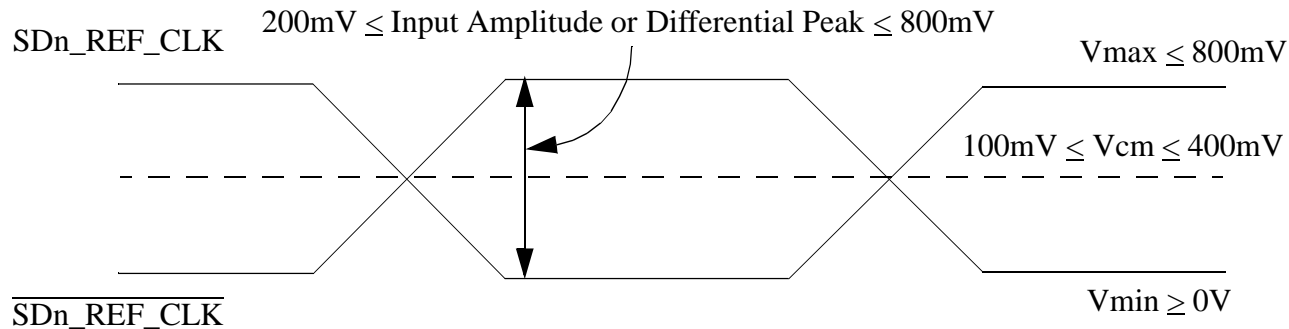

Figure 46. Differential Reference Clock Input DC Requirements (External DC-Coupled)
- For **external DC-coupled** connection, as described in section 16.2.1, the maximum average current requirements sets the requirement for average voltage (common mode voltage) to be between 100 mV and 400 mV. Figure 46 shows the SerDes reference clock input requirement for DC-coupled connection scheme.